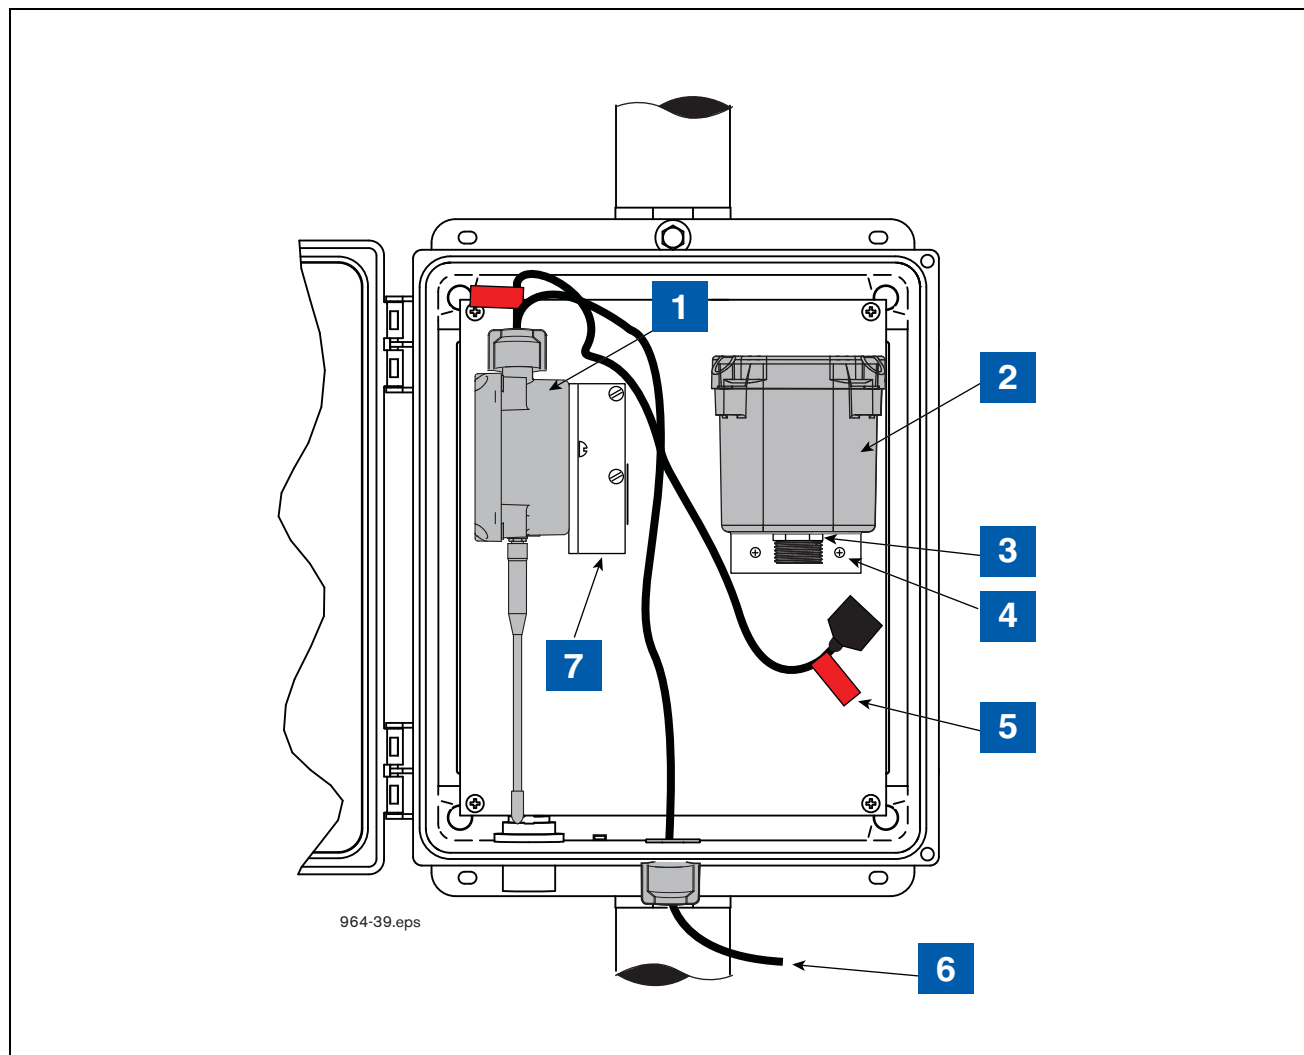

Figure 27. Example CCVP Transmitter/battery Pack Installation In The Universal Enclosure
6. Get the thin hex nut from the kit and screw it onto the battery housing cable connector threaded fitting until snug (see item 3 in Figure 27).
LEGEND FOR NUMBERED BOXES IN Figure 27
2. Make sure the battery/DC power cable is not connected to the battery pack (item 5 in Figure 27) or dc power source at this time.